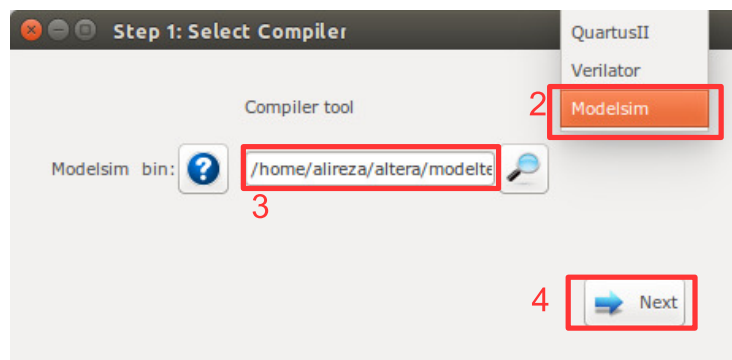

Figure 5.16: Select Modelsim as simulator.
1. Press the  **Compile RTL** button in right down corner. This should open "select compiler window" as shown in Figure 5.16.